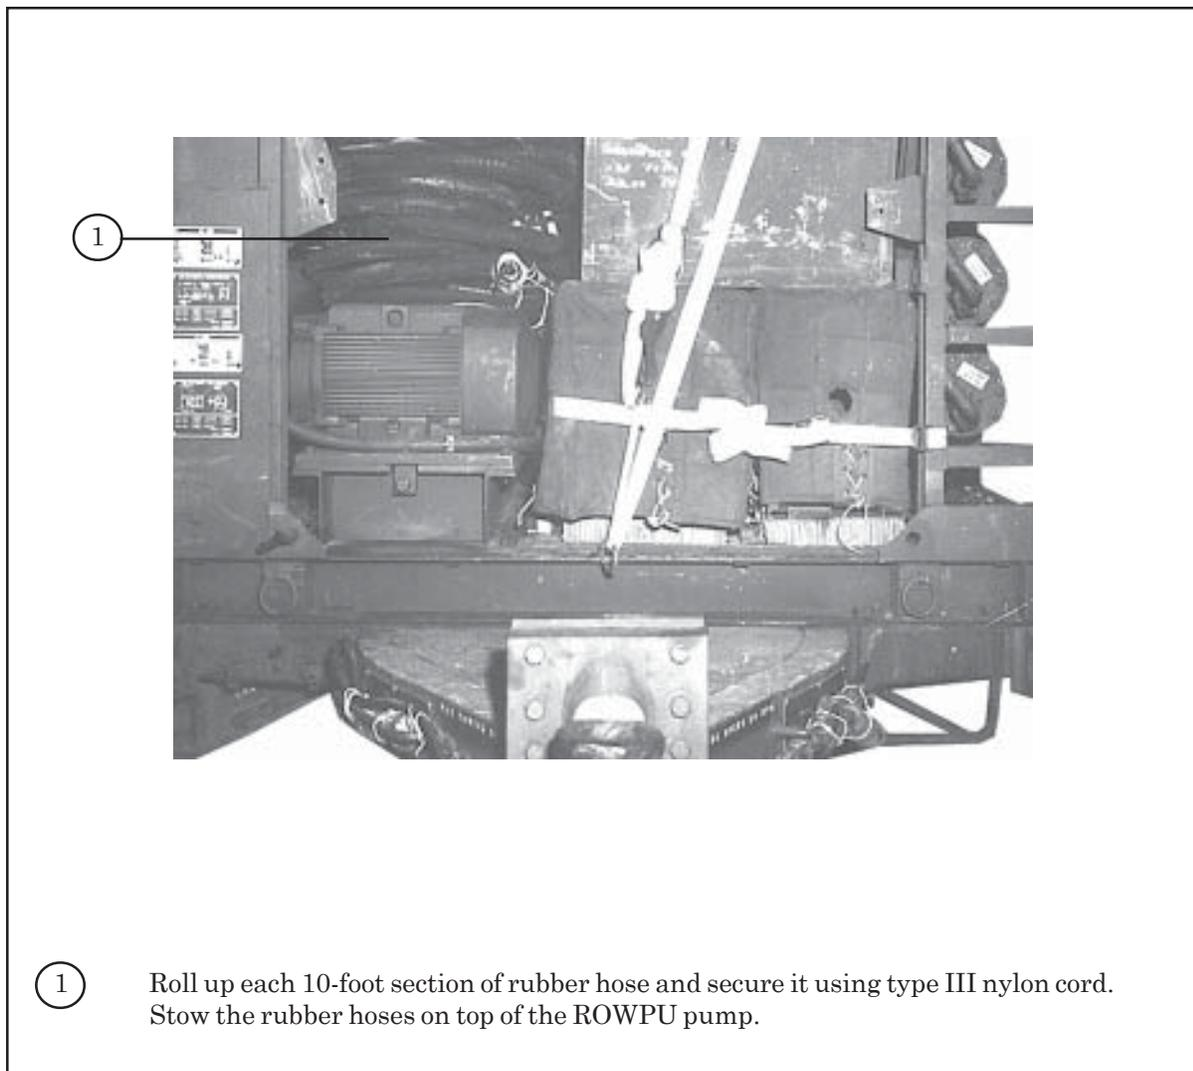

Figure 1-19. Rubber Hoses Prepared and Stowed
- s. Prepare and stow the rubber hoses as shown in Figure 1-19.